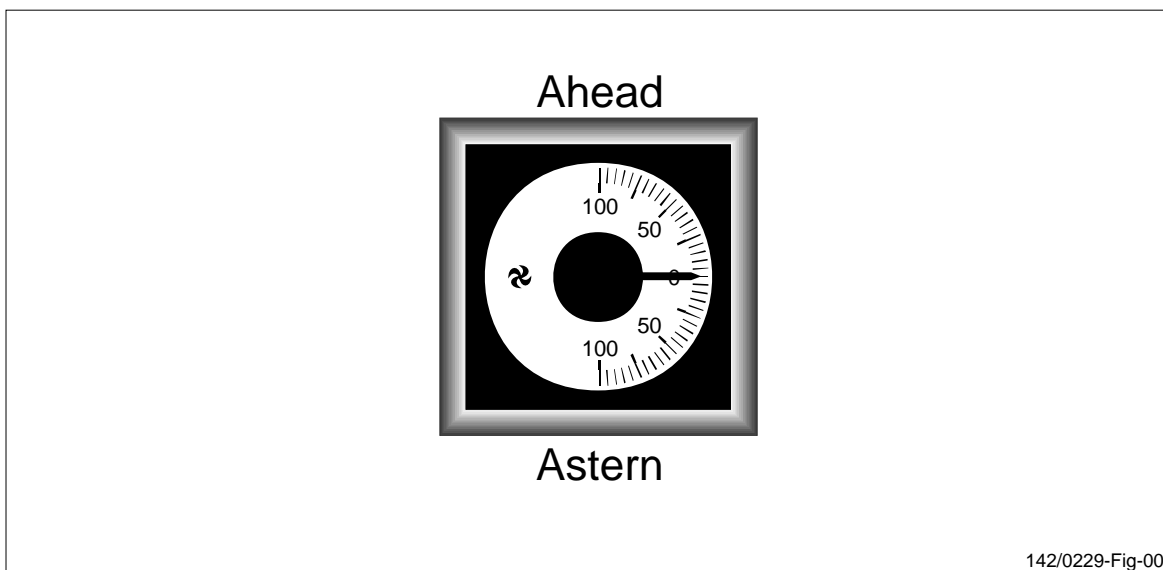

Figure 38 Pitch indicator on the control panel.
1. Press the “L.L.S. OVERRIDE ON/OFF” button (figure 38).